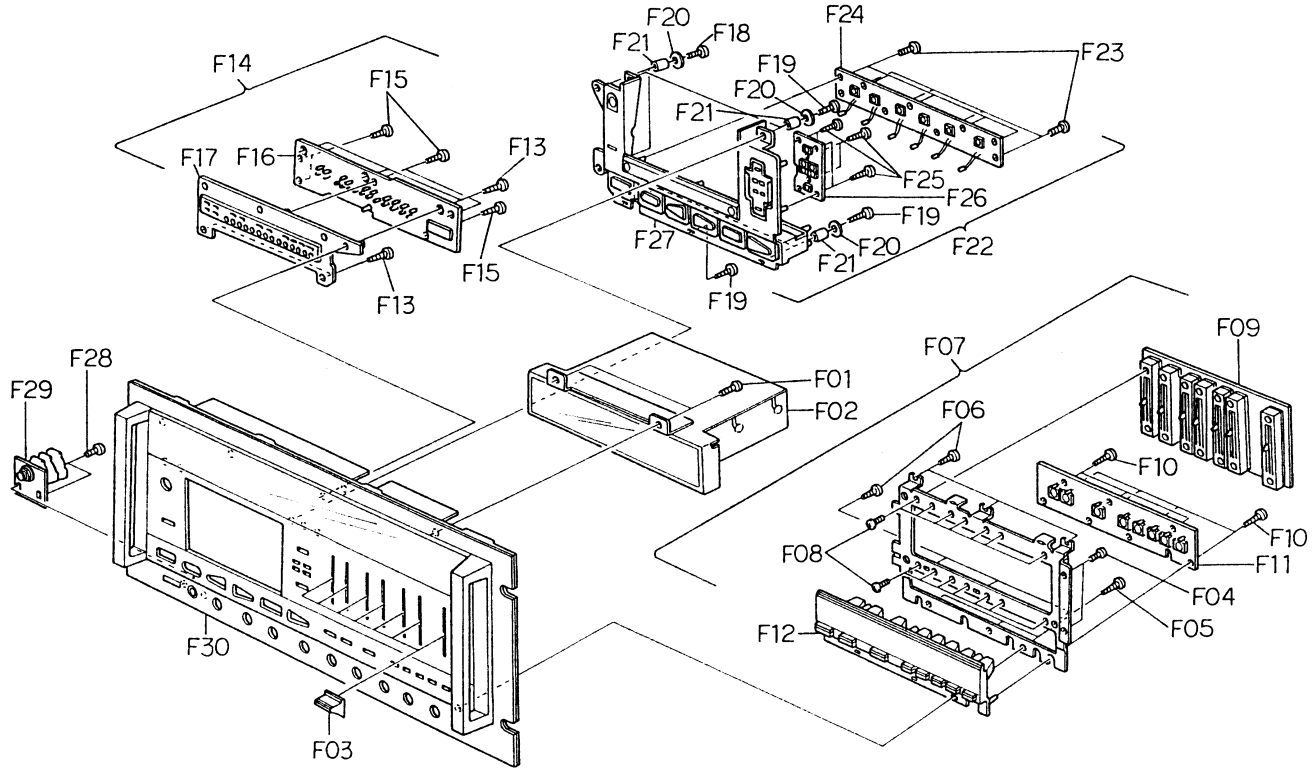

Fig. 2.5
Refer to Fig. 2.5.
- (1) Refer to Fig. 2.5. Remove FL Indicator Ass'y referring to item 2.14.
- (2) Remove F01, then disassemble F02 (FL Indicator